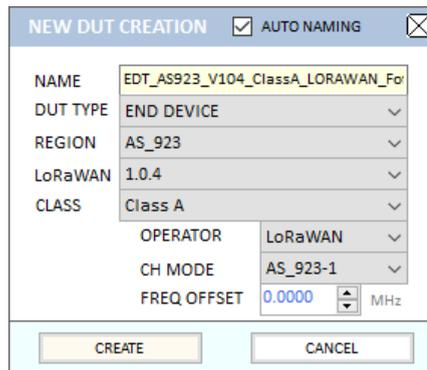

Fig 2.8 Creating a new DUT
Before DUT file is created, users must select some parameters related to LoRaWAN protocols such as DUT type, region, LoRaWAN® version, Class, Operator(KR, CN), channel mode(AS), channel plan(CN) and Frequency offset(AS region) shown in the figure 2.8 as they want to test. Once a DUT file is created, the name of the DUT, and the parameters mentioned above cannot be modified.If you want to modify any of them, you must create a new one. The AUTO NAMING will help you quickly name it.